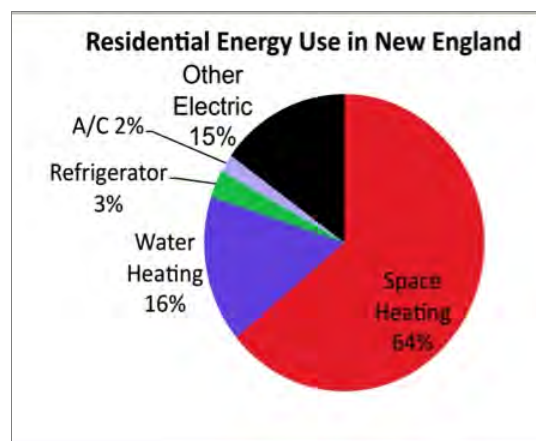

Figure 2: Residential Energy Use in New England
- Figure 2: Residential energy use in New England